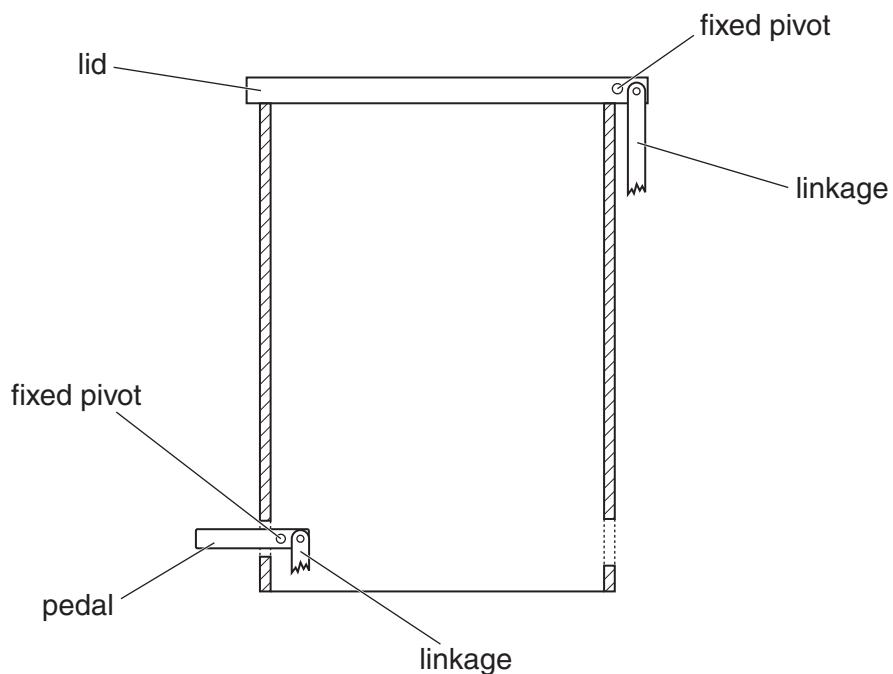

Fig. 6
- (c) Fig. 6 shows a cross-section of the pedal bin and lid.
Complete Fig. 6 to show a linkage that could be used to open the lid of the pedal bin when the pedal is pressed down.